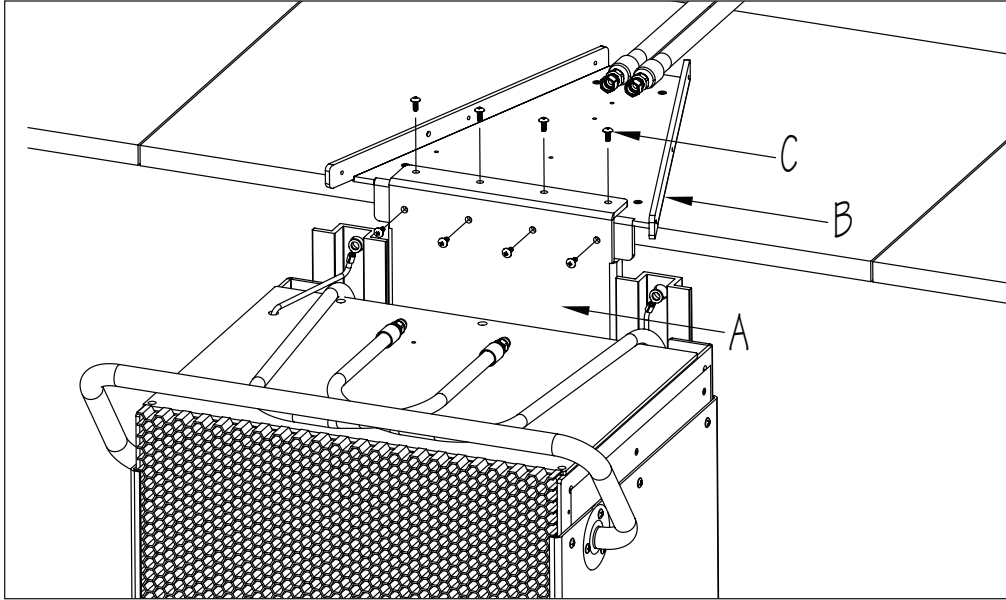

Fig. 20
1. With a minimum of two people, lower the Fastlane Pro into the pool aligning the holes in the Hanger Bracket (A) with the corresponding holes in the Deck Plate (B). Attach using the 1/2" (13mm) Phillips Truss Head Screws (C) (Fig. 20).